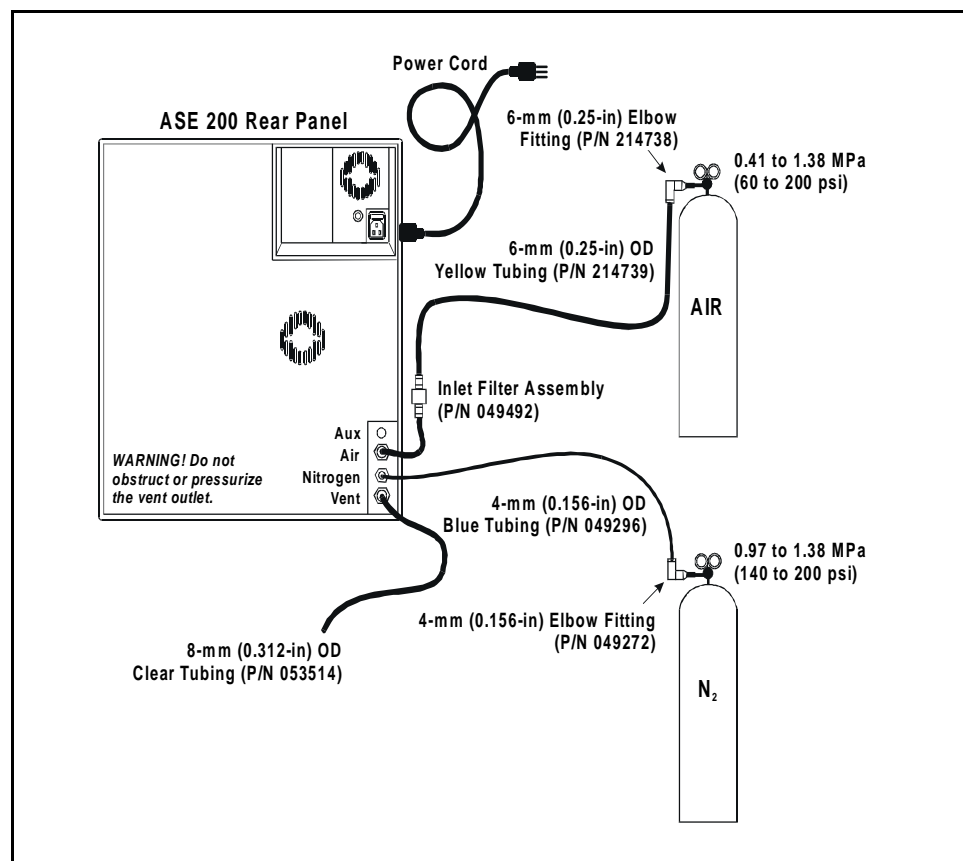

Figure B-1. Rear Panel Connections
2. Push one end of the yellow 6-mm (0.25-in) OD tubing (P/N 214739) into the elbow fitting and connect the inlet filter assembly (P/N 049492) to the other end of the tubing. Check that the arrow on the filter points in the direction of the air flow (toward the ASE 200). Push the tubing on the other end of the filter assembly into the **AIR** connector on the ASE 200 rear panel (see Figure B-1).